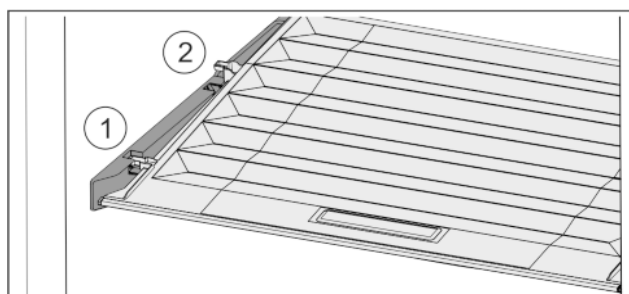

Fig. 32
- Pull the lid up at the front in the retaining parts to the opening Fig. 32 (1).
- Lift from the back and pull it up and out Fig. 32 (2).